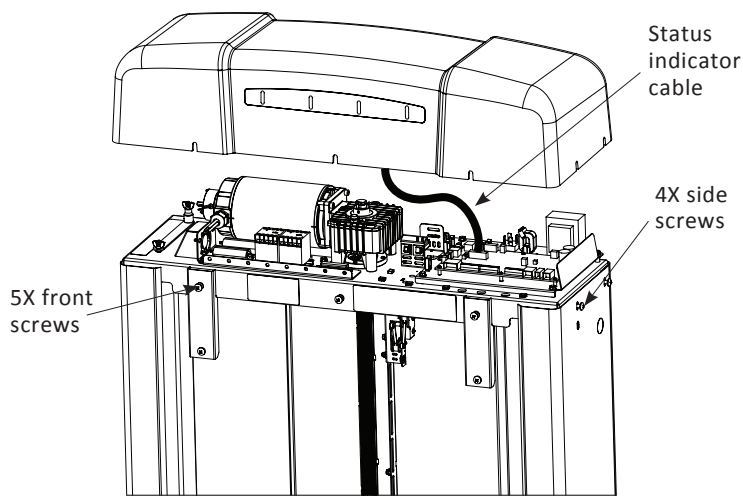

Figure 4-12
1. Loosen (7) screws around the perimeter of the top cap with a Phillips head screwdriver.
2. Lift the top cap partially and disconnect the cable between the top cap at the control board. Set the top cap aside. **See Figure 4-12.**